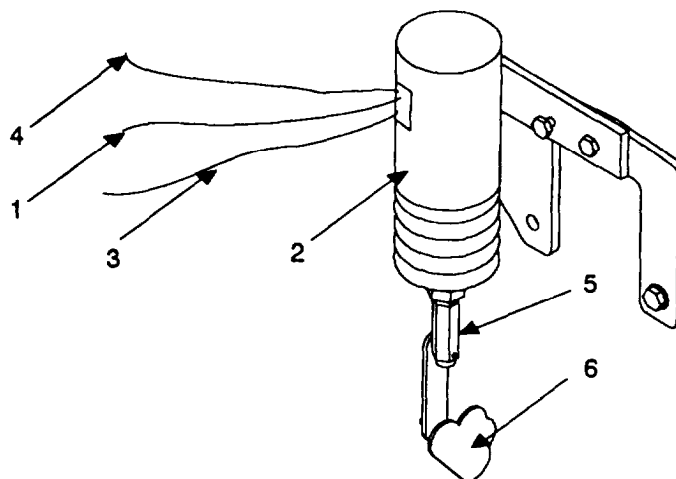

Figure 4-18.1. Shutdown Solenoid Test (Model 350 PAWN).
- a. Check for a good ground connection between black wire (figure 4-18.1,1) of solenoid (2) and engine. If in doubt, also check continuity between engine ground and battery return to insure a good ground.
- c. Apply 12 V dc to red wire (3) of solenoid (2).